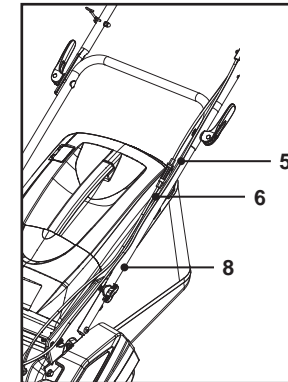

Fig. 4
5. Attach the brake wire (5) and the self-propelling wire (6) on the left-hand side of the lower handle bar (8) (when viewed from operator's position) (Fig. 4).